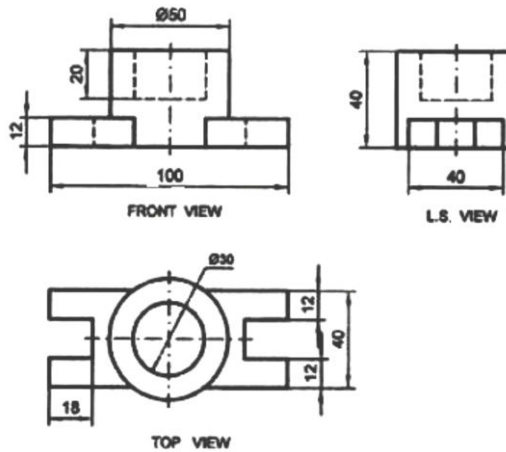

Figure 2
4. Three views of a machine part are shown in figure 2. Draw the isometric view of the part (All dimensions are in mm).